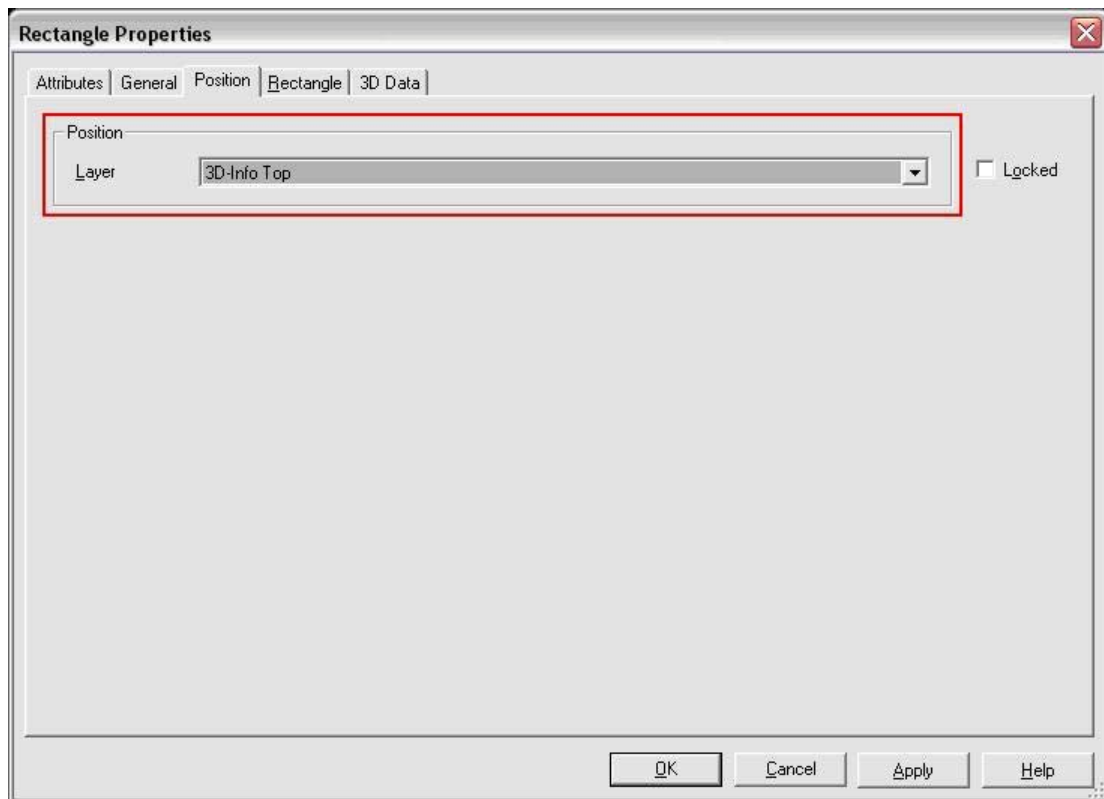

Figure 22 - 3D Rectangle Properties
e.) In the Layer combo box select the **3D-info Top** option as shown in Figure 22. Click on **OK**.
g.) In the **Select a Footprint** dialog box select the User Database (red box in Figure 22). You will notice that currently the User Database does not see the landpattern that has been created in Steps 1 to 9 of this tutorial.